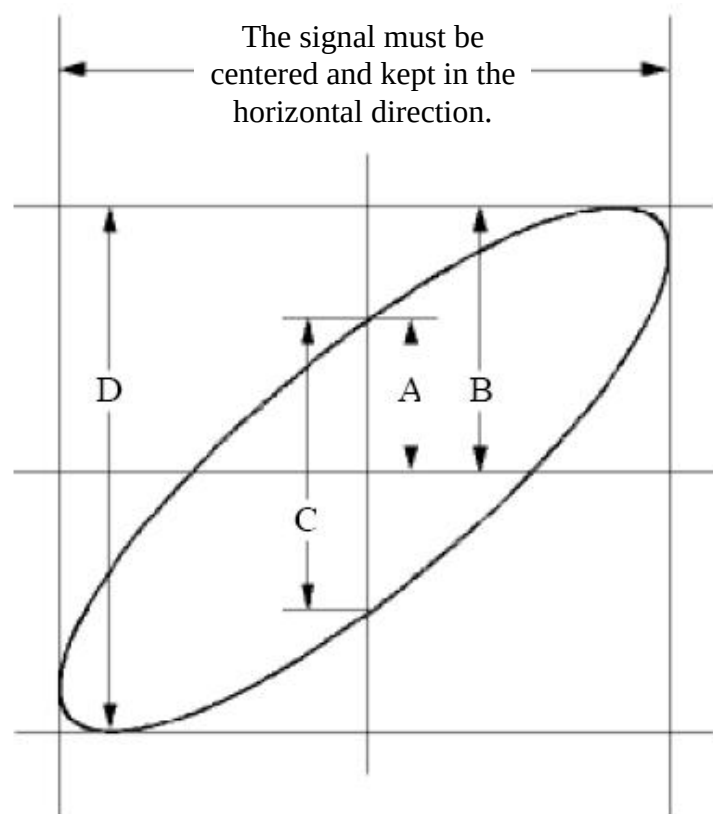

Figure 7-6 Lissajous Graph
- (1) Set the probe menu attenuation coefficient for **10X** and that of the switch in the probe for **10X** (see "*How to Set the Probe Attenuation Coefficient*" on P11).
- (2) Connect the probe of channel 1 to the input of the network and that of Channel 2 to the output of the network.
- (3) Push the CH1 to CH4 button to turn on CH1 and CH2, turn off CH3 and CH4.
- (4) Push the **Autoset** button, with the oscilloscope turning on the signals of the two channels and displaying them in the screen.
- (5) Push **CH1** button to select CH1, turn the lower knob, and then push **CH2** button to select CH2, turn the lower knob, making the amplitudes of two signals equal in the rough.
- (6) Click  to call up the menu panel. Click the **XY** softkey on panel to switch to the **ON** state. The oscilloscope will display the input and terminal characteristics of the network in the Lissajous graph form.
- (7) Turn the upper and lower knobs, optimizing the waveform.
- (8) With the elliptical oscillogram method adopted, observe and calculate the phase difference (see Figure 7-6).